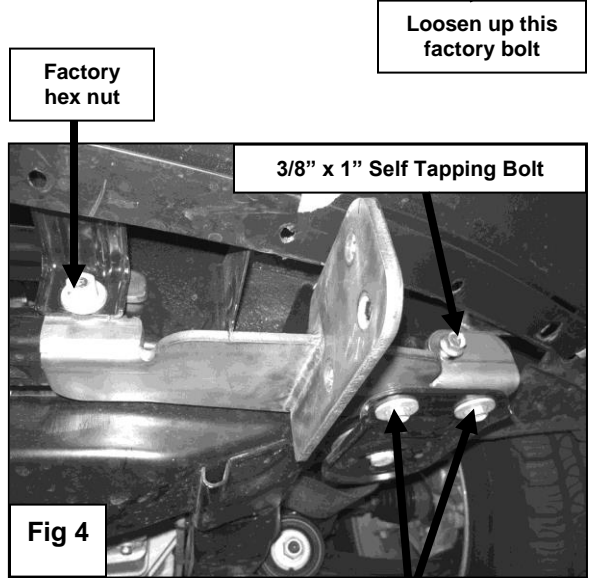

Fig 4
- Once the Mounting Bracket is in place, use the included 3/8" x 1" Self Tapping Bolt to attach the outer front facing Mounting Location on the Bracket to the factory hole on the cross member bar. Re-install the factory hex nut and the two bolts removed from the motor mount bushing. Tighten all hardware at this time including the large bolt on the motor mount bushing and frame (**figure 4**). Tighten large motor mount bolt to 75 ft lbs.